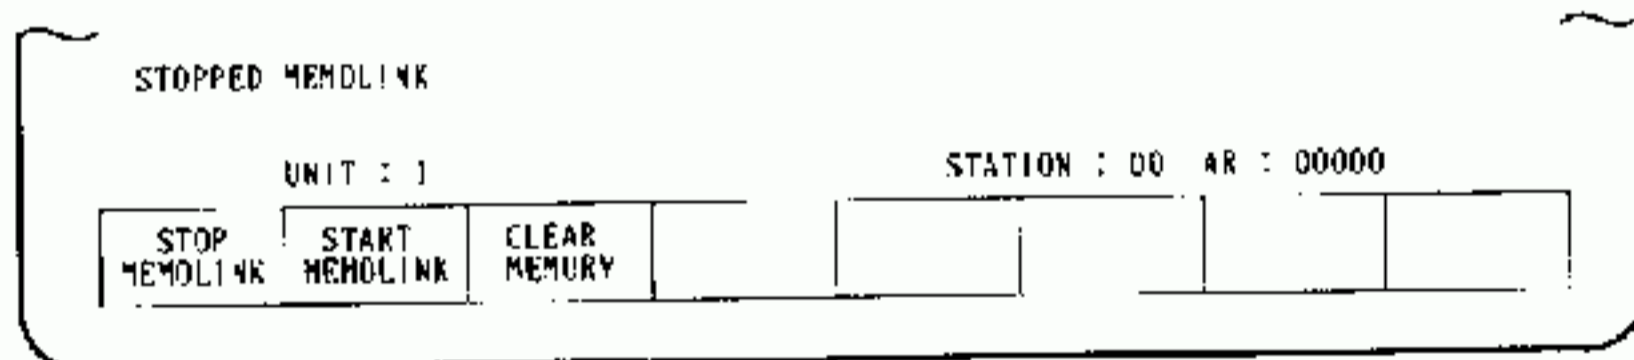

Fig. 5.1.93
2. If "CANCEL" is depressed instead of "CONFIRM," nothing happens and the display returns to that shown in Fig. 5.1.93.